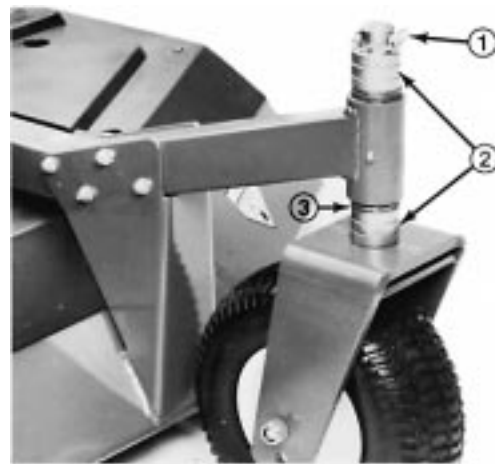

Figure 10
4. On all remaining castor wheel assemblies, remove lynch pin from castor fork shafts (Fig. 10). Remove castor fork shaft and spacer assembly from the castor arm (Fig. 10). Place spacers onto castor spindle to desired height-of-cut setting and install castor fork shaft in arm (Fig. 9). Install remaining spacers onto shaft and secure assemblies with the lynch pin (Fig. 10).